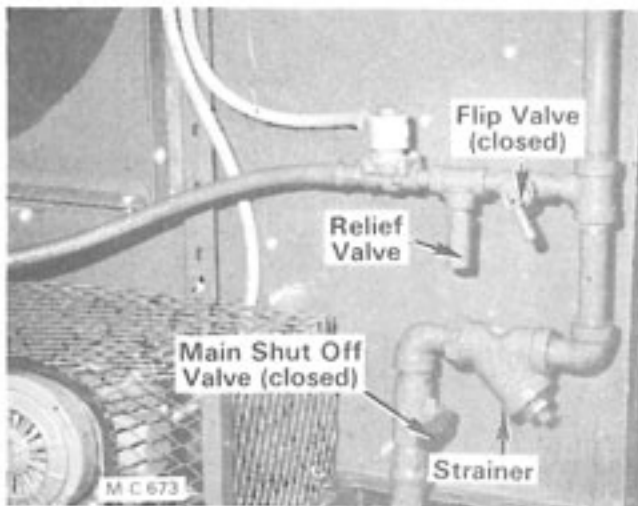

Figure 13
2. **LP Gas** - Close the liquid line flip valve for burner (handle down), see Figure 13.
1. **LP Gas** - Open the supply valve at the tank, the hand valve at the LP Gas inlet hose and open (lift up) the liquid line flip valve on the burner, see Figure 13. The flip valve is open when the handle is  $90^\circ$  to the piping.